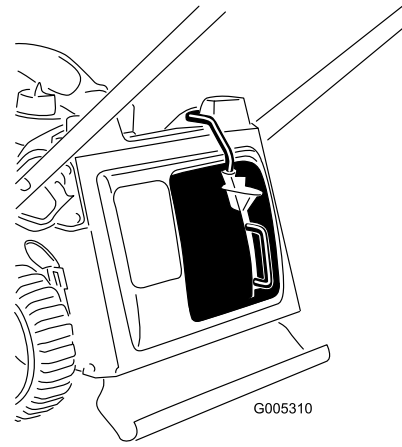

Figure 9
3. Release the button on the lever and ensure that the top of the lever is lies fully in the switch channel (Figure 9). **If the top of the lever is not in the switch channel, your mower will turn off when the blade control bar is engaged!**